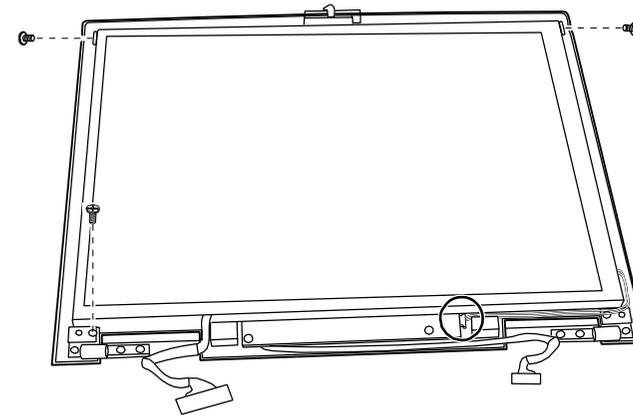

Figure 5-25. Removing the LCD
1. Reconnect the cable to the inverter board. Fit the LCD back into place and secure with three screws. (Refer to Figure 5-25.)